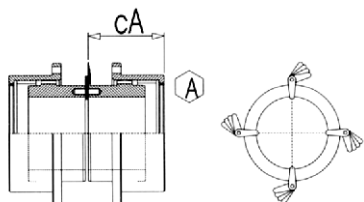

Fig.01
- H.1 Determine the angular misalignment value by processing, in accordance with the scheme below, the measurements of the head parallelism between the reference face surfaces of the two hubs. For this purpose, by inserting the thickness gauge between the heads of the two hubs, perform a first  $360^\circ$  test to identify the position and the min. and max entity of the distance between the hubs. After defining the extreme positions, take a precise measurement of four points at  $90^\circ$ , as **A** in Fig. 01.